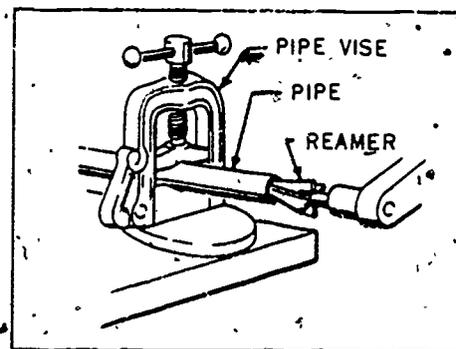
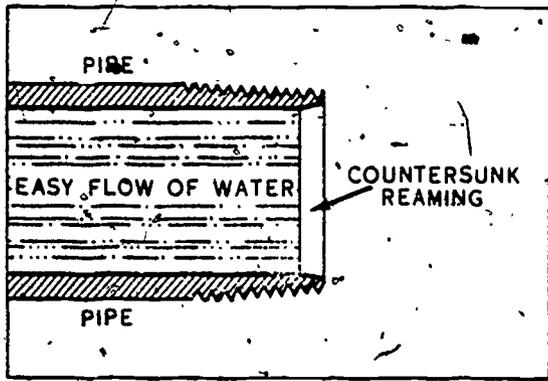

Figure 4-24. Reaming a pipe.
Figure 4-25. Pipe properly reamed.
*Reaming pipe manually.* The burr is removed from the end of the pipe with a pipe reamer. To perform this operation, insert the point of the pipe reamer into the pipe while it is still clamped in the vise, as shown in figure 4-24, and rotate the handle of the reamer in a clockwise direction in short, even strokes until the burr on the inside of the pipe is removed. A cutaway of a piece of pipe that is reamed properly is illustrated in figure 4-25. It is general practice for a plumber to